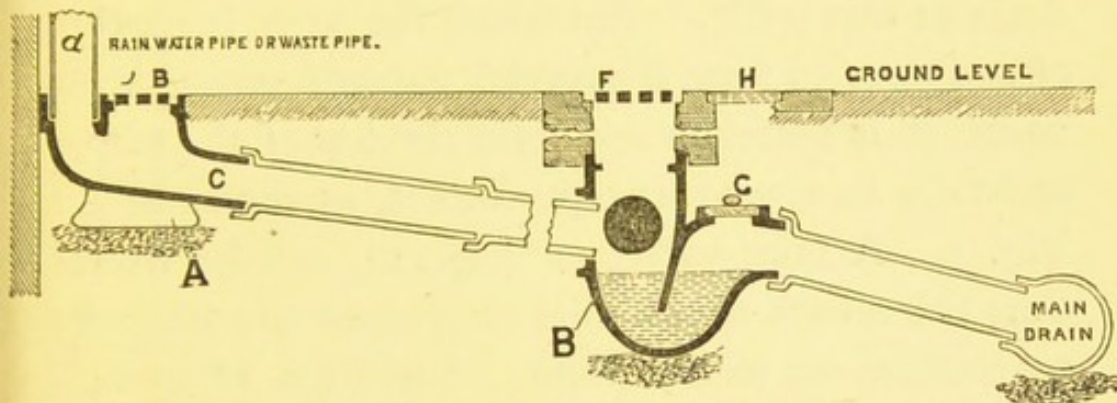

FIG. 118.—Section of a "Ventilating Drain-connector," showing its connection with a R. W.-pipe and Drain.
*lected water* with *some force* into the drain. Such an arrangement would do away with the questionable value of traps at the bottoms of rain-water-pipes, and, at the same time, it would avoid the evils of long branch drains. The Author has designed a stoneware "Ventilating Drain-connector" for fixing at the bottom of rain-water-pipes and waste-pipes. Fig. 74, p. 184, shows a *perspective view* of it, and Fig. 118 a *section*, at A. This diagram, Fig. 118, explains itself: B shows the "*intercepting-trap*" fixed close to the main drain, and A the "*Drain-connector*" fixed at the foot of a rain-water-pipe. See Plates XIX. and XXI.
- A.—“*Ventilating Drain-connector.*”—See Fig. 74, p. 184, and A, Fig. 118, p. 271.